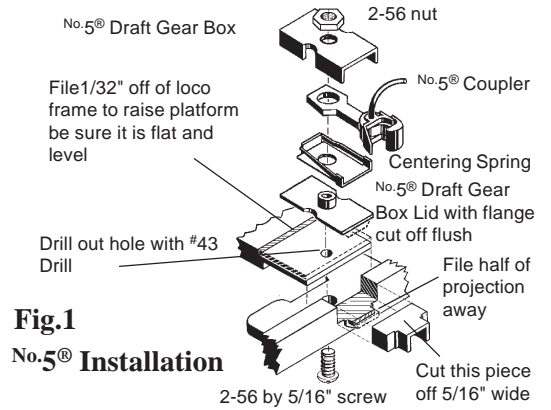

Fig.1
1. Remove screw holding pilot and loco frame together. File away 1/32" of the bottom front of loco frame about 3/8" back from frame end. Be sure to file flat and level. Drill out hole in frame end with a #43 drill to clear a 2-56 screw. See Fig.1.
2. Cut away a 5/16" wide opening in the coupler pocket and cut to the surface of the top of the coupler pocket. Remove the bottom piece of the coupler pocket, see Fig.1.